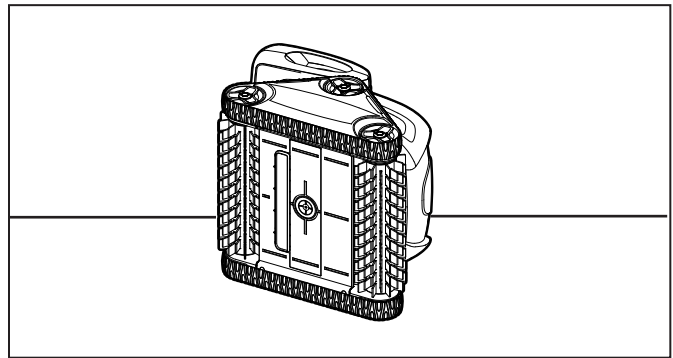

Figure 29. Stand Cleaner on its Side
1. Stand the cleaner on its side (see Figure 29).